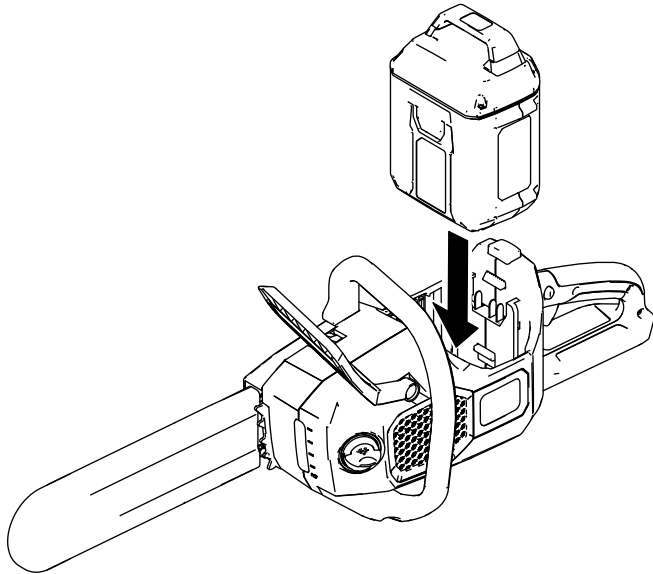

Figure 23
2. Align the tongue of the battery pack with the battery cavity in the chain saw (Figure 23).